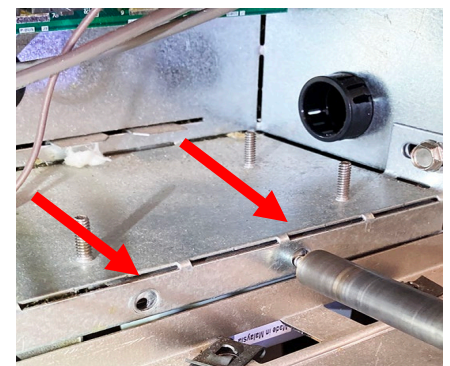

Figure 27
29. Remove the two screws attaching the ignition modules at the bottom of the control box (see Figure 27).